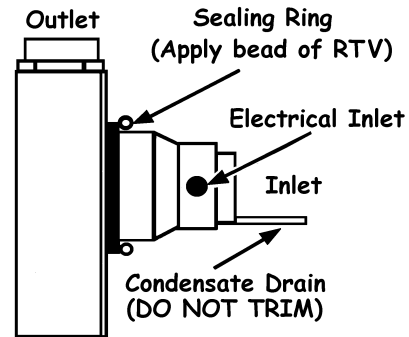

Figure 5
- (Use Figure 5 as a Guide for 3-6):
- 7) Secure unit to sidewall with four (4) #6 x 2.0" drywall screws provided. Use nylon washers provided under the screw heads to prevent marring the finish.